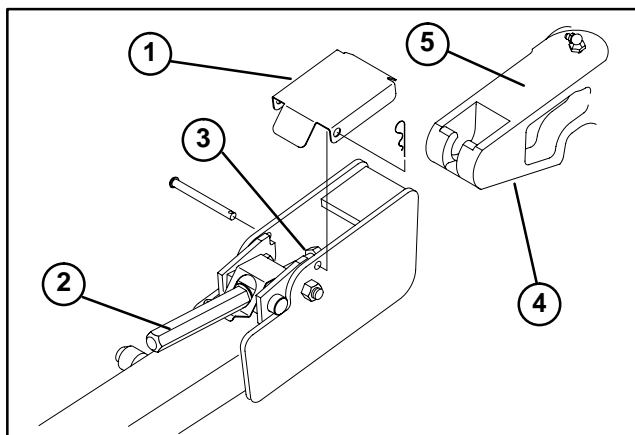

Figure 17
3. Adjust lift arms heights making sure that the machined surface on top of each traction unit lift arm is parallel to ground (Fig. 17). (Raise or lower lift arm casting by pushing up or down from behind the front tires or using wrench in front of tractor)